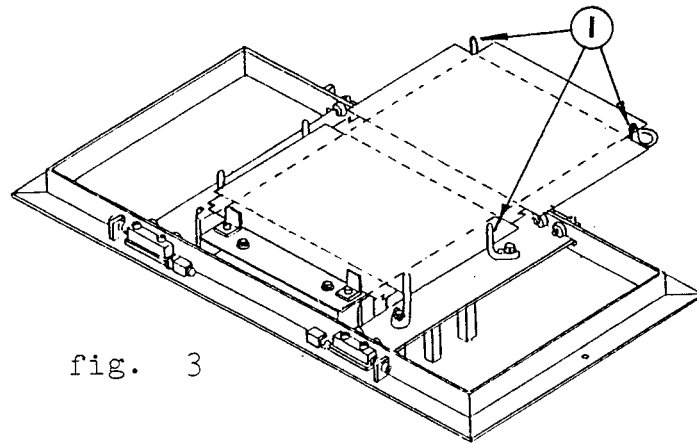

fig. 3
6. Raise plunger, place carton on forming frame, lower plunger to touch carton. Locate carton under plunger as shown in Fig.2-H and place register pins to hold the carton in the correct place under the plunger. Fig.3-I. (Carton should not be allowed to move more than 1/32" over-all)